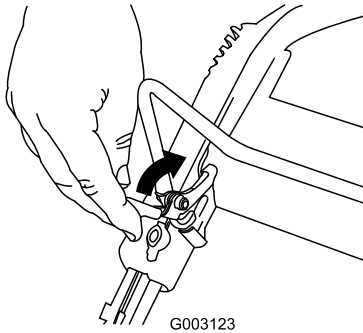

Figure 30
1. Pull the control bar lock back (Figure 30).